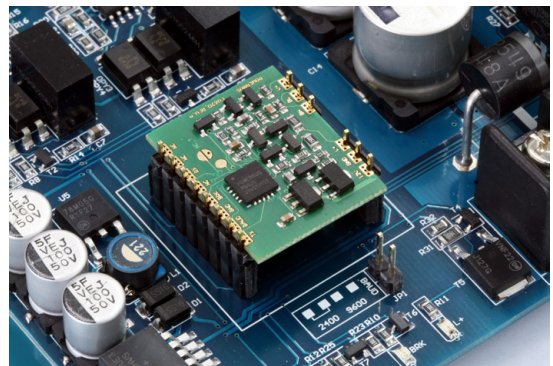

Figure 3
- 2) Press EV620 over needles as shown in figure 3 .